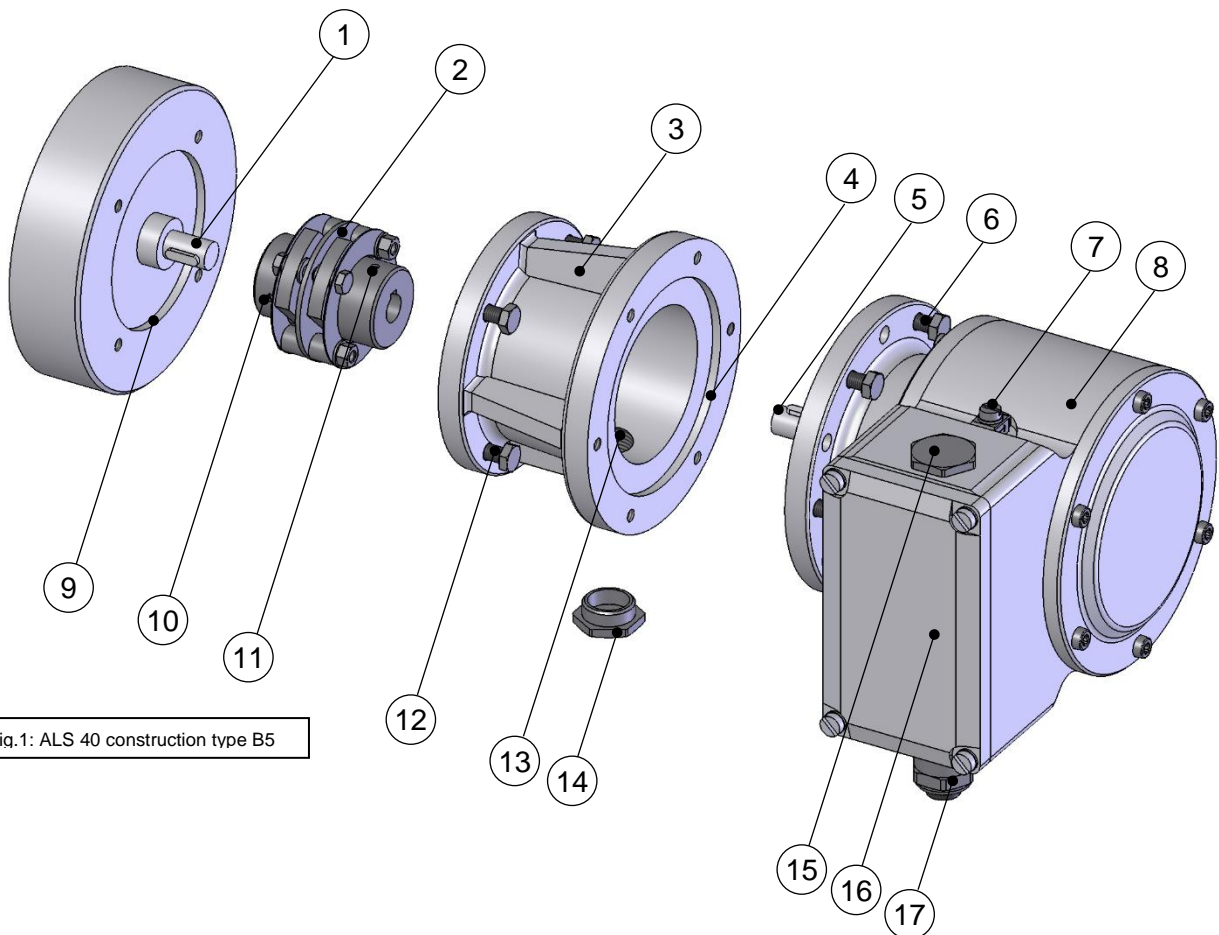

Fig.1: ALS 40 construction type B5
1. Open the terminal box cover (16 Fig. 1).
2. Remove the cap of the cable gland (17 Fig.1).
9. Secure earth cable to earth terminal (7, Fig.1).